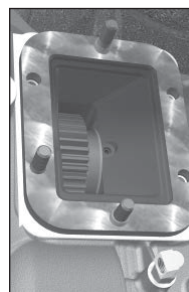

Figure 55
5. Install the geared adapter into the transmission aperture over the studs (**Fig. 55**).